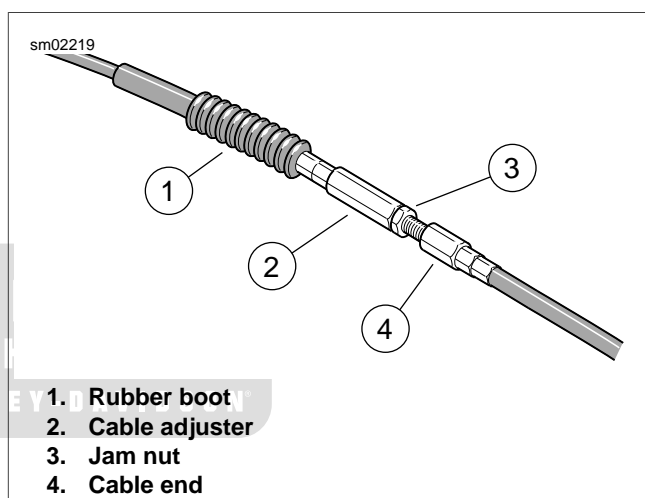
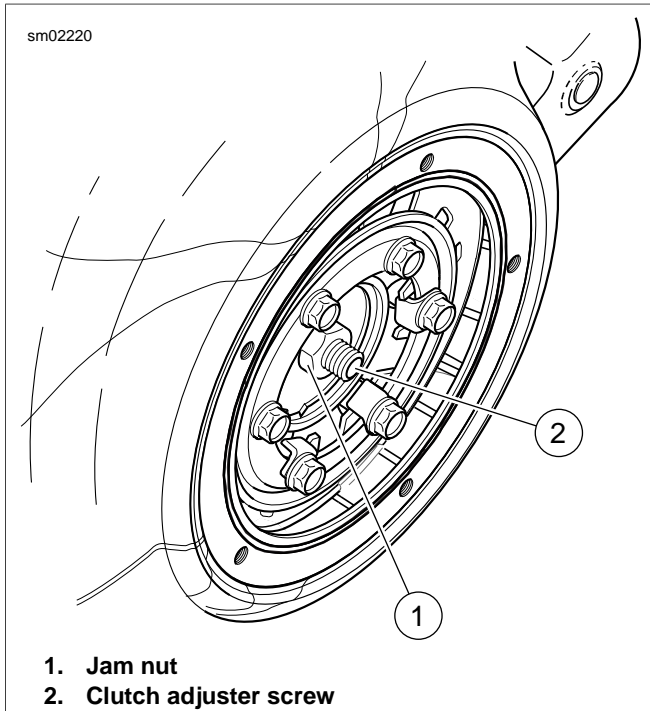

Figure 1-20. Clutch Cable Adjuster
Figure 1-21. Clutch Adjuster Screw
4. See Figure 1-20. Add freeplay to cable.
- a. Slide rubber boot (1) off cable adjuster.
- b. Holding cable adjuster (2) with 1/2 in. wrench, loosen jam nut (3) using a 9/16 in. wrench.
- c. Turn cable adjuster (2) until there is a large amount of freeplay at clutch hand lever.
5. See Figure 1-21. Loosen jam nut (1) on clutch adjuster screw (2). To take up all freeplay, turn screw inward (clockwise) until lightly seated. Activate the clutch lever to verify the balls are seated in the ramps.